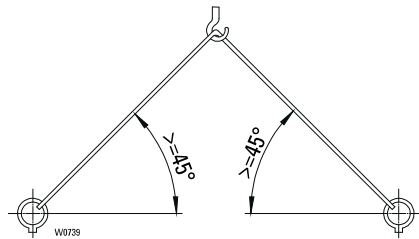

Fig. 1
- The sling points are designed for a max. diagonal pull $\geq 45^\circ$, see Fig. 1.